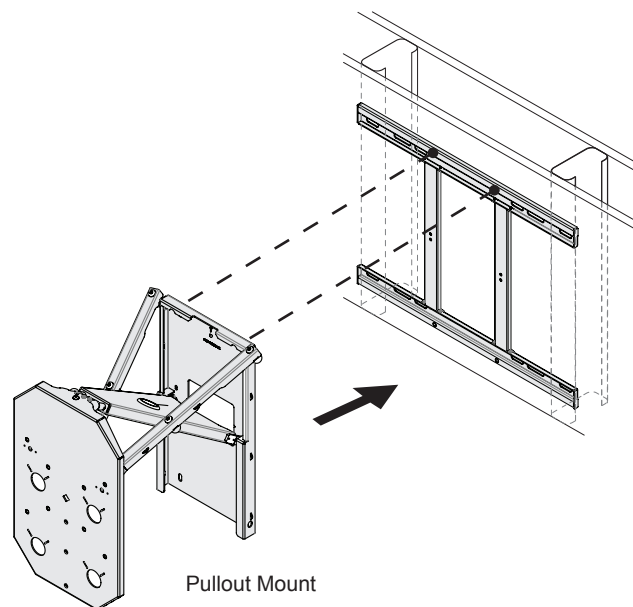

Fig. 2
- 2 Hang the pullout mount on the M8 x 12mm combo Phillips screws that were pre-installed in the wall frame (Fig. 2).